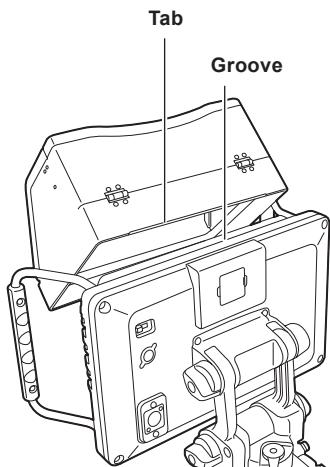
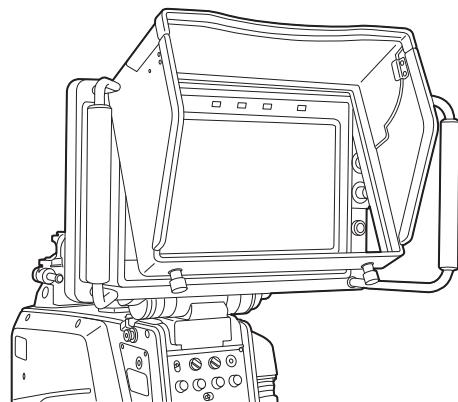

Fig. 1
Fig. 2
**1** Hook the tab on the hood to the groove at the top. (Fig. 1, Fig. 2)